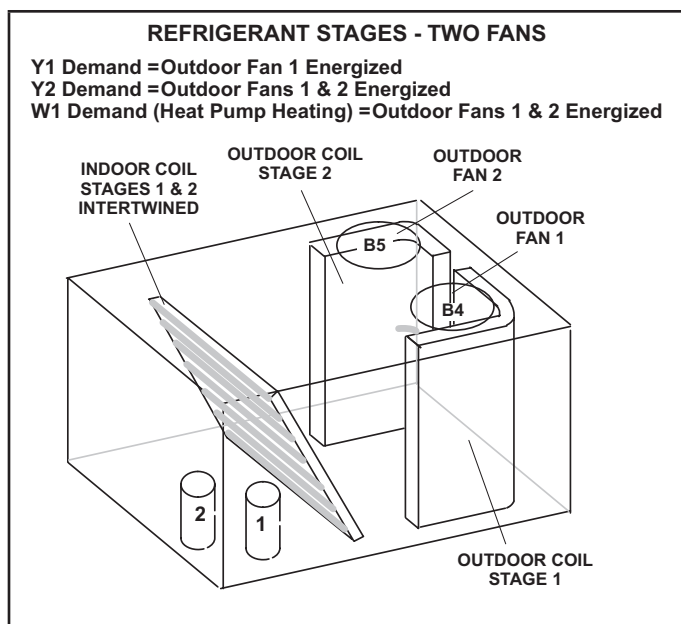

FIGURE 16
- 2 - Units contain two refrigerant circuits or stages. See FIGURE 16.